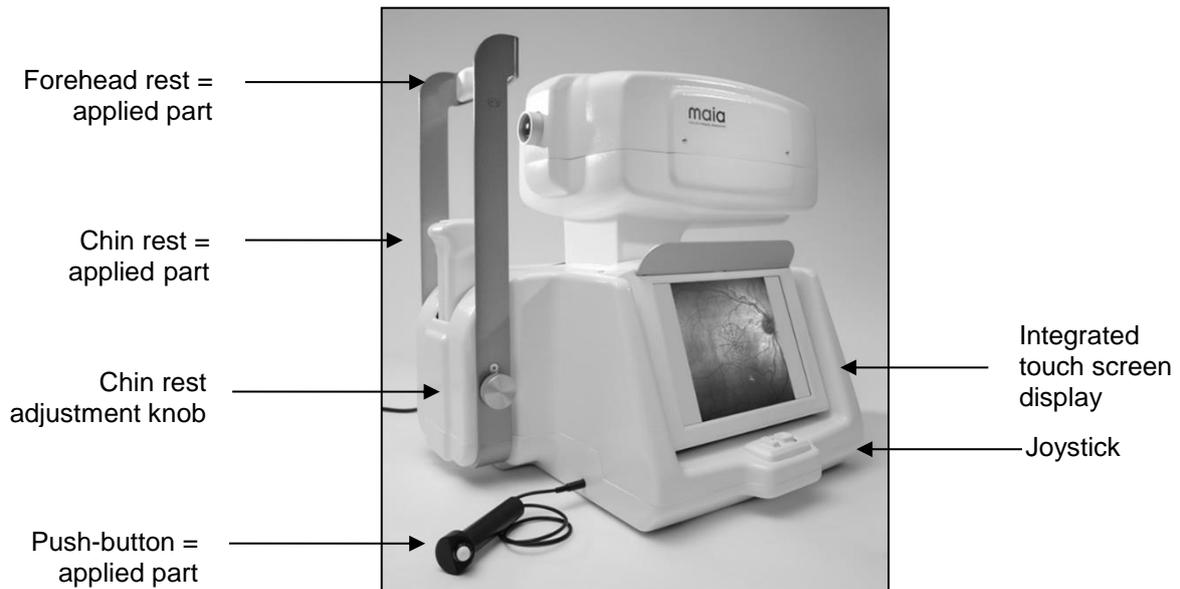

Fig. 5 – MAIA front view
- connect the push-button to the push-button connector (see Fig. 4 or Fig. 5): the push-button is used by examined subjects during the test, as explained at par. 7, item 8;